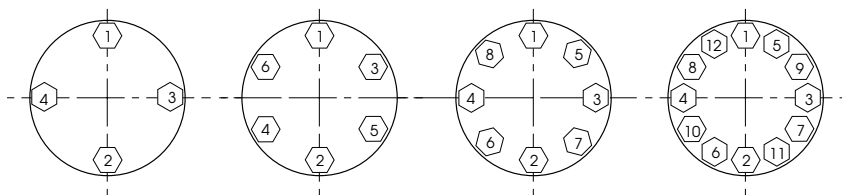

Figure 11 – Bolting Torques and Tightening Sequence
Tighten nuts (10) until metal to metal contact is obtained with proper bolt torque. Refer to Figure 11 for proper bolt torque and tightening sequence specifications.
- G. Insert packing (6) [and lantern ring (7) on valve equipped with an optional lubricator connection]. Refer to Section 7.6 for proper packing assembly procedure for standard or optional designs.
- H. Install packing follower (5) and packing flange (4).
- I. Install packing flange stud nuts (3).
Care must be taken to ensure that the cage, seat, and bonnet are properly aligned in the body. Cage should be installed with parts at lower end, near seat ring. Tighten nuts (10) until metal to metal contact is obtained with proper bolt torque. Refer to Figure 11 for proper bolt torque and tightening sequence specifications.
- G. Insert packing (6) [and lantern ring (7) on valve equipped with an optional lubricator or leak detection connection]. Refer to Section 7.6 for proper packing assembly procedure for standard or optional designs.